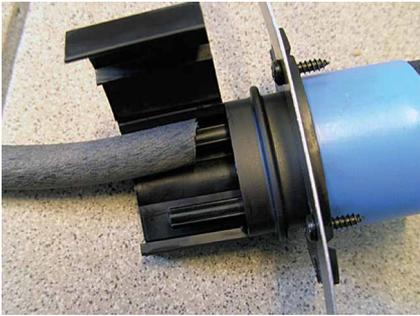

Figure 1
- Close the clip at the back of the Twinbox to secure the injection tube in place (figure 1 to 3).